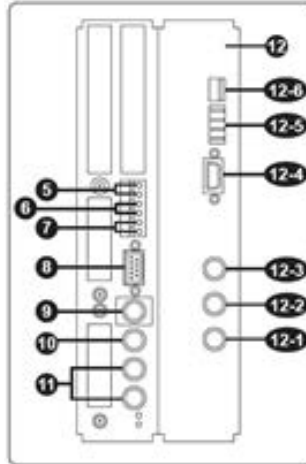

Figure 3.17. Shimadzu GC-2014 Back View Diagram
- Red wire to pin 1 (top pin labeled 5 in Figure 3.17)
- Black wire to pin 2 (second pin in group 5 in Figure 3.17)
NOTE: The following numbers are connections as shown in Figure 3.17.